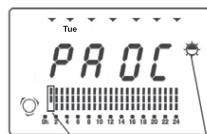

Fig. 14
- Operation in Comfort-1 mode on Tuesday from 0:00 to 01:00 hours in the morning (fig. 14)